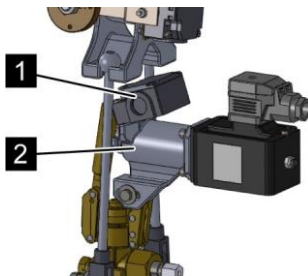

Fig. 76: Mounting the monitor
22. ➤ Connect the limit switch (Fig. 76/1) as shown in the terminal diagram ➤ “Monitor of the EM release device” on page 123.
23. ➤ Loosely fasten the limit switch (Fig. 76/1) with cylinder-head screws and washers on the holder of the EM release device (Fig. 76/2).
24. ➤ Align the limit switch (Fig. 76/1) in such a manner that the contact is activated with the valve lever.